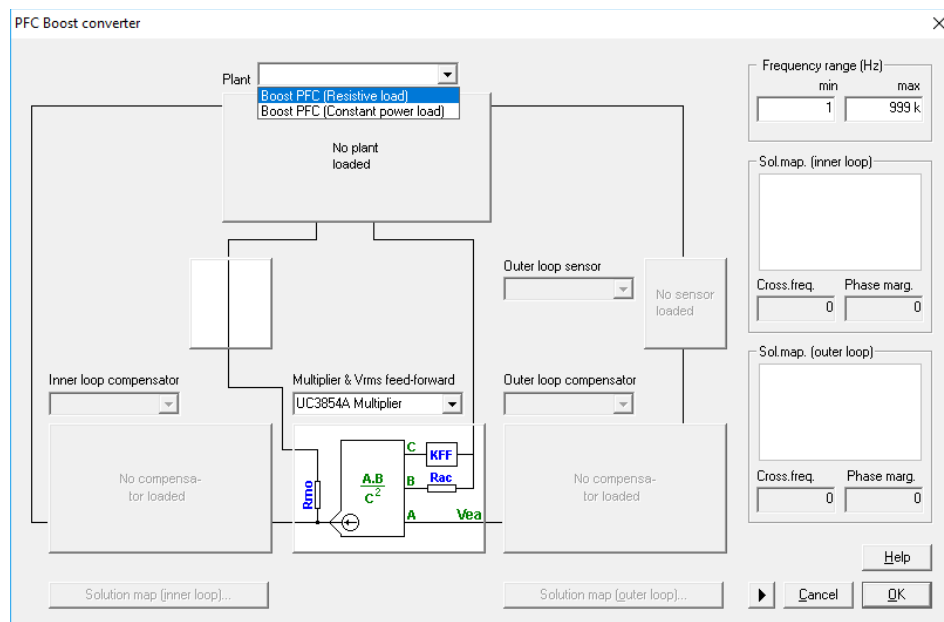

Figure 7: Inner current loop almost defined
3. At this point, the inner current loop is almost defined as it can be seen in Figure 7. To finish this loop, it is necessary to define the plant topology. To do so, select a boost PFC (resistive load) plant.